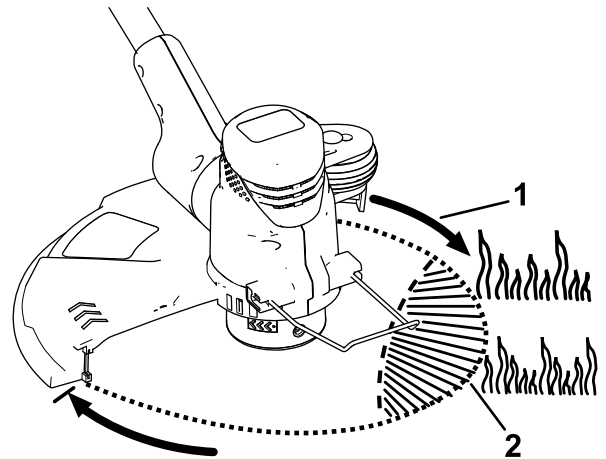

Figure 18
2. Push in the tabs on the side of the spool retaining cover (Figure 18).